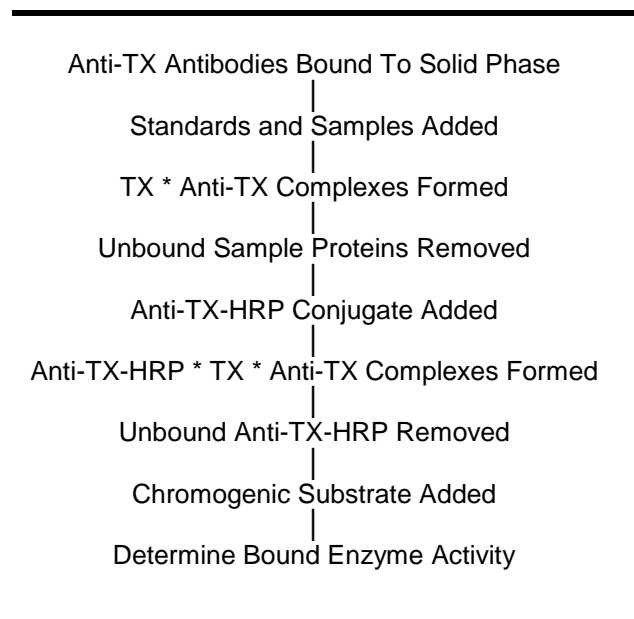

Figure 1
The principle of the double antibody sandwich ELISA is represented in Figure 1. In this assay the transferrin (TX) present in samples reacts with the anti-TX antibodies, which have been adsorbed to the surface of polystyrene microtitre wells. After the removal of unbound proteins by washing, anti-TX antibodies conjugated with horseradish peroxidase (HRP) are added. These enzyme-labeled antibodies form complexes with the previously bound TX. Following another washing step, the enzyme bound to the immunosorbent is assayed by the addition of a chromogenic substrate, 3,3',5,5'-tetramethylbenzidine (TMB). The quantity of bound enzyme varies directly with the concentration of TX in the sample tested; thus, the absorbance, at 450 nm, is a measure of the concentration of TX in the test sample. The quantity of TX in the test sample can be interpolated from the standard curve constructed from the standards, and corrected for sample dilution.